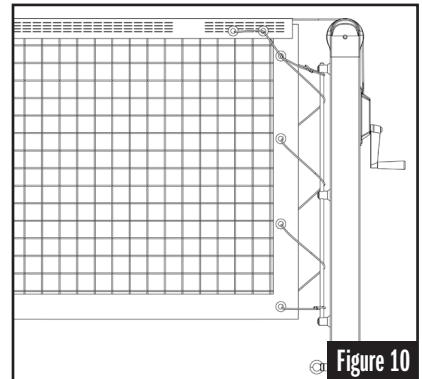

Figure 10
- Continue threading the lacing cord around the lacing rod and through each grommet as shown in Figure 10.